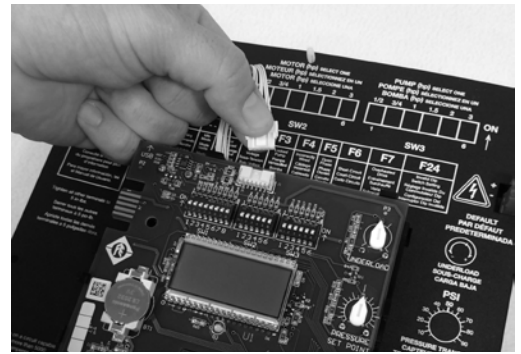

Figure 1
2. Disconnect the wire harness from the display board (Figure 1).